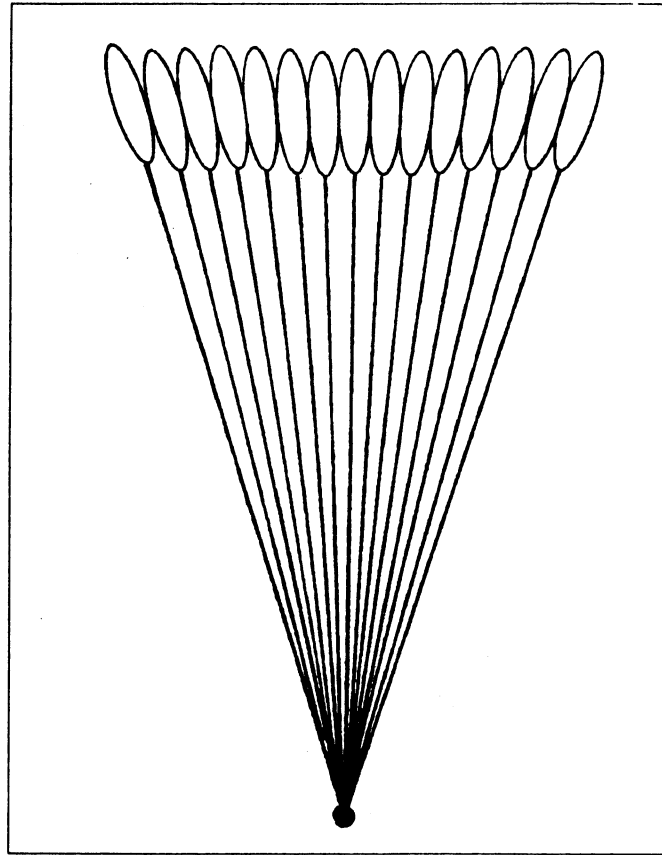

Fig 4-1. Single gun engaging a wide target.
- (1) Select the correct range sight setting based on the fire command received from your squad leader. Then set the rear sight accordingly.
- (2) While keeping your traversing handwheel centered, adjust the initial impacts onto the center of the target. Do this by sliding the traversing bar and manipulating the elevation handwheel; do not use the traversing handwheel. The reason you originally adjust onto the center of the target and not onto one of its flanks is to ensure that you have enough traverse adjustment on the traversing handwheel to cover the entire target.
- (3) Once impacts are recorded at the approximate center of the target, traverse to one flank. Commence complete coverage of the target by firing and adjusting.
- (4) After firing each six-round burst, you will immediately traverse 2 mils by turning the traversing handwheel two clicks. To traverse the muzzle (and impacts) left, you will turn the handwheel to the left, or away from you. As you would expect, to traverse right you will turn the handwheel to the right, or towards you. Traversing fire is demonstrated in figure 4-1.